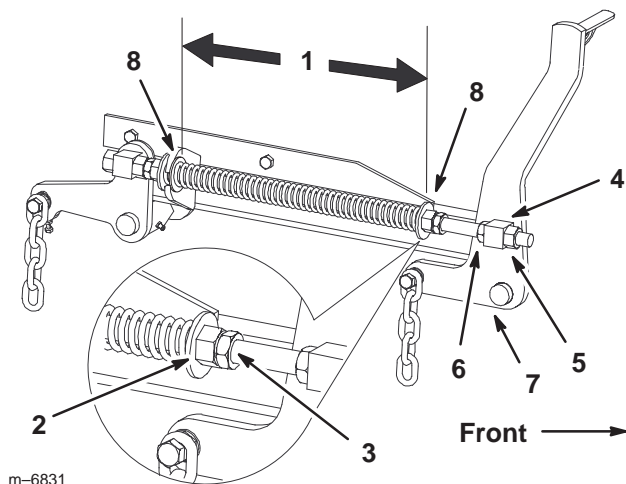

Figure 66
7. Loosen the front swivel jam nuts, at the front of the right and left swivels, approximately a 1/2 inch (13 mm) (Fig. 66).
8. Adjust the lift nuts on both the left and the right side of the machine to achieve **1/4 to 3/8 inch (6 to 10 mm) lower in front at A than in the rear at B** (Fig. 66).
2. Check the distance between the two large washers, it needs to be 10-1/2 inches (26.7 cm) (Fig. 66).
- Adjust this distance, by loosening the spring jam nut and turning the nut in front of each spring (Fig. 66). Turning the nut clockwise will shorten the spring; counter-clockwise will lengthen the spring.
- Lock the nut into position by tightening the spring jam nut (Fig. 66).